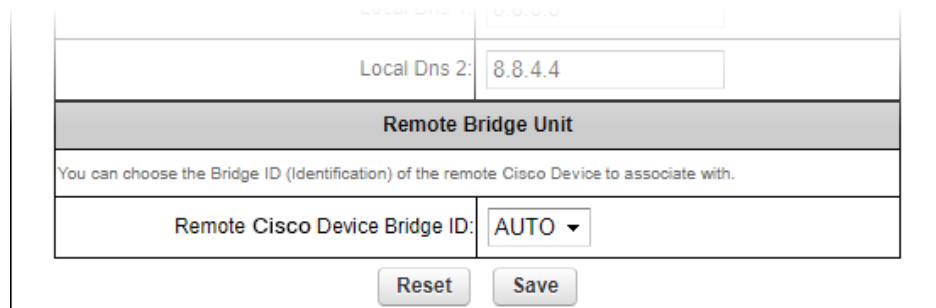

Figure 25. General Mode window (Remote Bridge Unit section)
1. Click the **Remote [Unit model] Bridge ID:** drop-down (Figure 25 \(page 72\)).